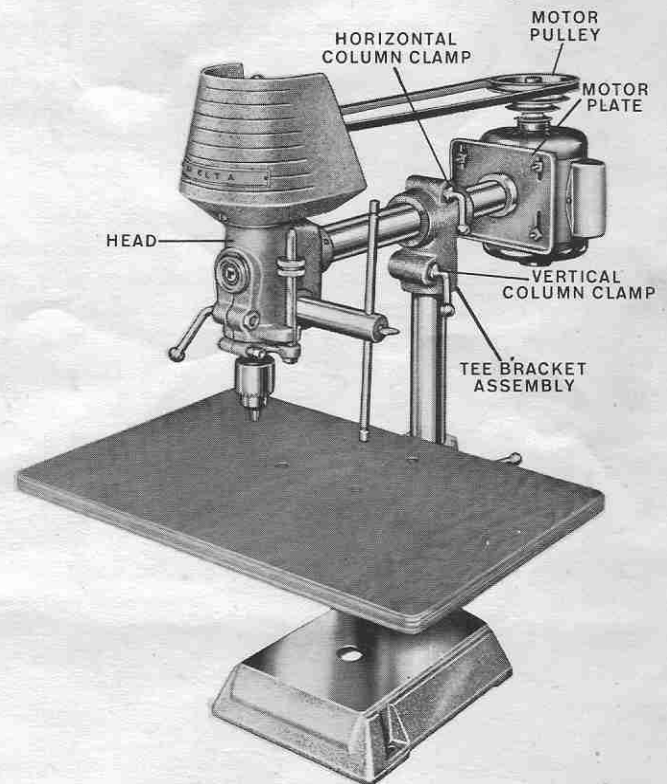
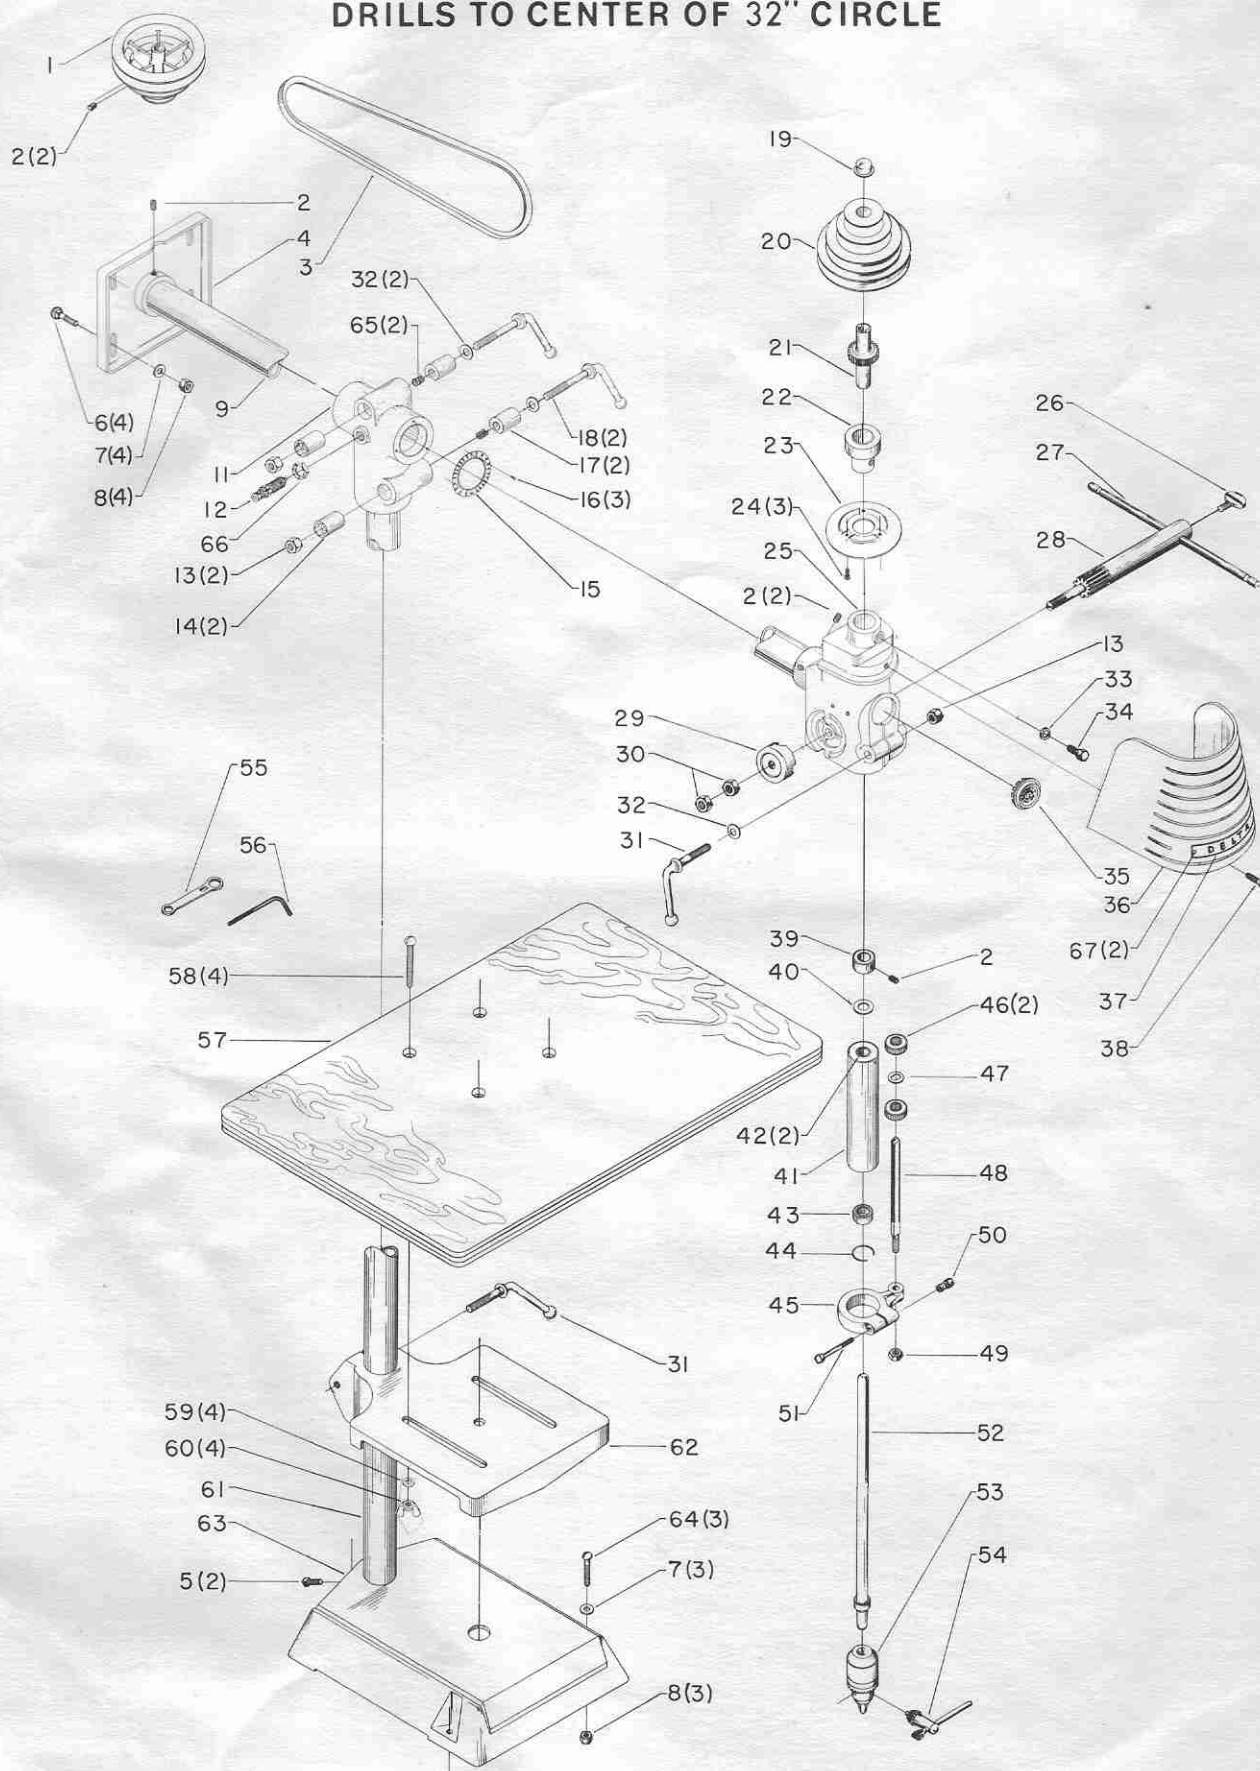

Figure 1
Figure 6
After removing your #11-280 Radial Drill Press from the carton, place the base, vertical column and table assembly on a Delta No. 50-821 steel stand or any other suitable level surface. The base should be fastened to the stand or work bench using three 5/16 inch round head stove bolts. Remove the vertical column clamp assembly Fig. 1 from the tee bracket. Place the head, motor plate, and tee bracket assembly on the vertical column. Replace the clamp assembly, taking care to reassemble in the same order. When the motor is installed and the motor pulley and V-Belt are assembled, it is necessary to move the head to take up belt slack. The head Fig. 6 (25) is secured by two set screws (2). At the same time, the head should be set perpendicular to the table surface. Check this setting by means of a drill in the chuck and a square off the table surface. This adjustment should be performed with the plunger locator (12) engaged in the milled slot in the horizontal column (9). This can be checked by noticing the scribed line on the column opposite the milled slot. This line will correspond with the zero mark on the scale (15) when the plunger is engaged.
To replace the bearing, take off the spindle pulley guard HDP-802-S, withdraw the hexagon head cap screw DP-279 from the front of the head, and push the pulley upward out of the headcasting. Remove the retainer plate DP-278 from the inside of the pulley and press the old bearing out of the pulley. Install a new bearing SP-5373 and re-assemble the parts according to Fig. 6. In mounting the pulley, enter the inner race of the bearing so that the threaded hole meets the hole in the head casting, and tighten it into position by means of the screw DP-279.